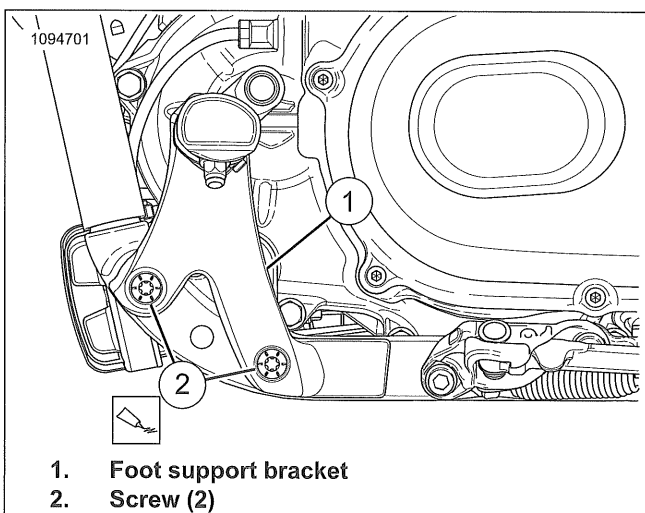

Figure 3-131. Left Foot Support Bracket (Typical)
1. See Figure 3-131. Remove foot support bracket.
- a. Remove screws (2).
- b. Remove foot support bracket (1).
1. See Figure 3-131. Install foot support bracket.
- a. Apply threadlocker to screws (2).